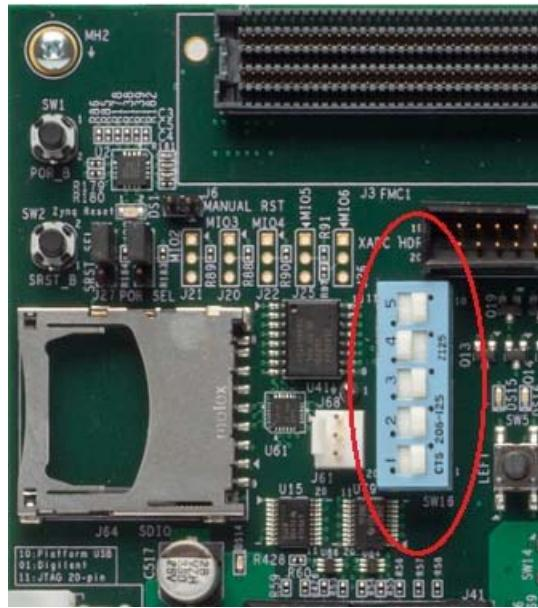

Figure 6-16: Jumper Settings for Booting Linux from QSPI Flash
1. After you program the QSPI Flash, set the SW16 switch on your board as shown in Figure 6-16.